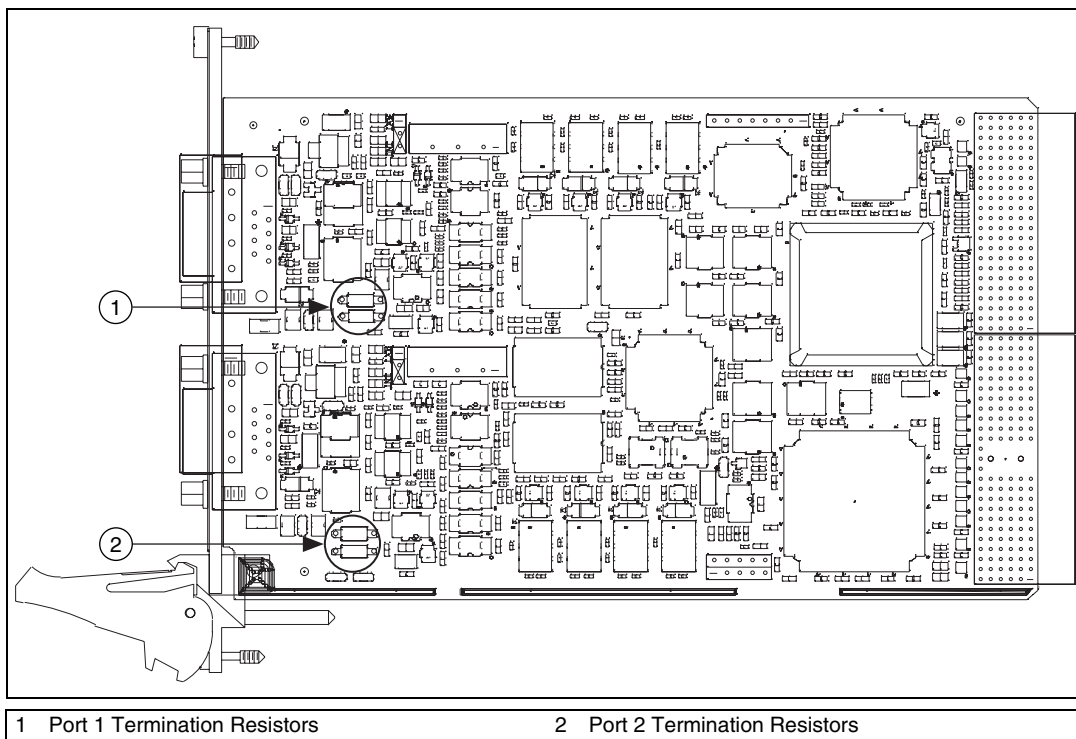

Figure 4-10. Location of Termination Resistors on a PXI-8460
1. Remove the termination resistors on the PXI-8460. Figure 4-10 shows the location of the termination resistor sockets on a PXI-8460.